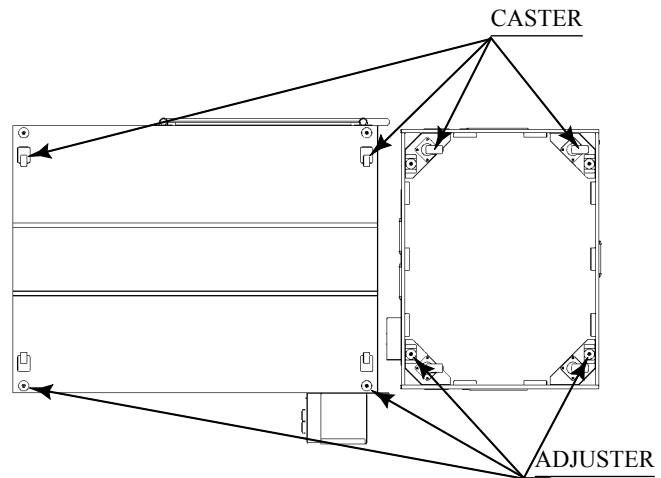

FIG. 6. 3 a BOTTOM VIEW
- ① Transport the product to the installation position. Be sure to provide adequate space allowing the player to get on and off.
- ② Have all of the Adjusters make contact with the floor. Adjust the Adjuster's height by using a wrench so that the machine position is kept level.
- ③ After making adjustment, fasten the Adjuster Nut upward and secure the height of Adjuster (FIG. 6. 3 b).